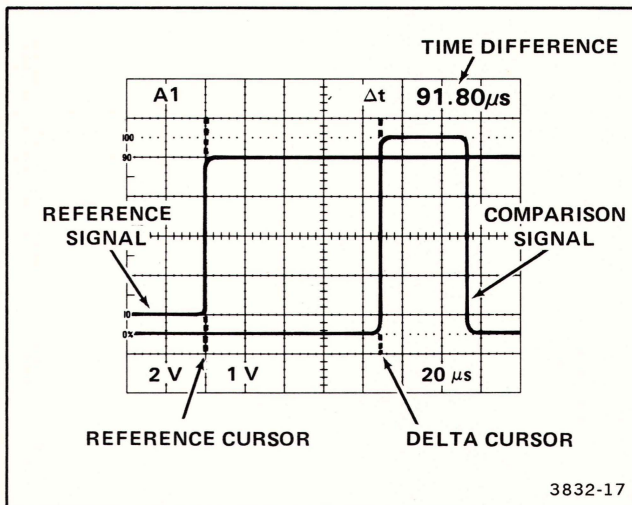

Figure 6-5. Time difference between two time-related pulses (cursor method).
4. Activate the Delta Time measurement function and set the cursors to similar reference points (such as leading edges) on the two signal displays (see Figure 6-5).